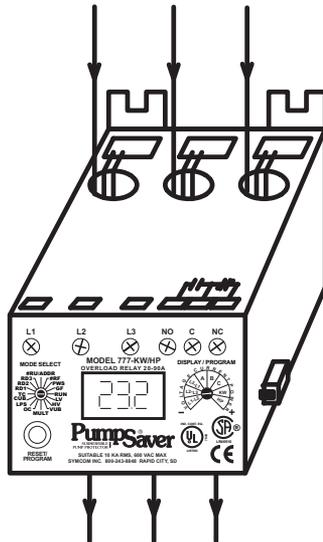

Figure 3: Looping Example Showing Three Conductors (MULT=3 from Table 1)
B) For amperage less than 25 amps, loop the motor conductors according to Table 1. Figure 3 shows an example of the looping required for current ranging from 8.1 to 12 amps (MULT=3).